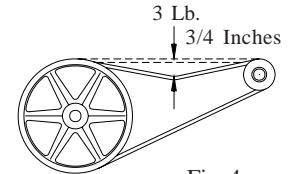

Fig. 4
- **Check belt tension.** A 3 lb. force should deflect the belt 3/4 inches (see Fig. 4). Readjust belt if needed.